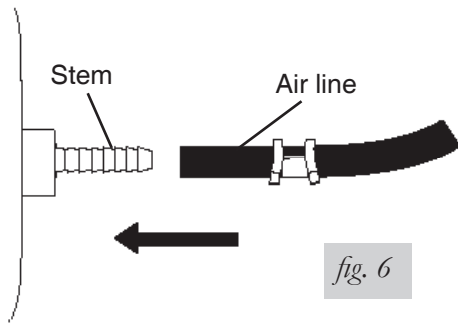

fig. 6
- Push the air line onto the stem, covering all the barbs (fig. 6). With the pliers, slide the air line clamp upward until it fully covers the barbed section.
5. Push the air line onto the stem, covering all the barbed section (see fig. 6). With pliers slide the air line clamp forward until it fully covers barbed section.